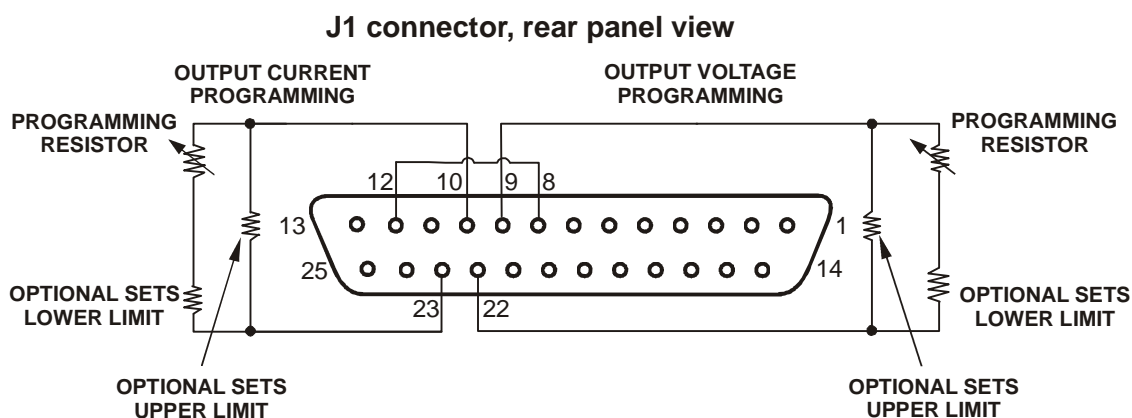

Fig 7-2: Remote resistive programming
- f) Connect the programming resistors to the mating plug of J1 as shown in Fig.7-2.